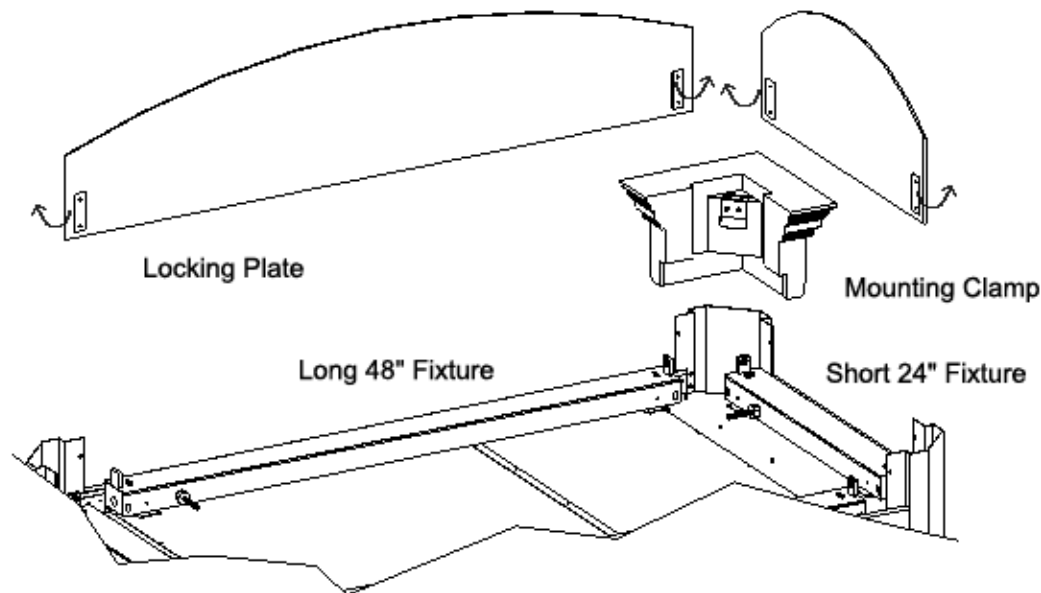

Figure 9. Topside Detail
4. Install the top corners. Figure 9 shows the Topside Detail of the kiosk.